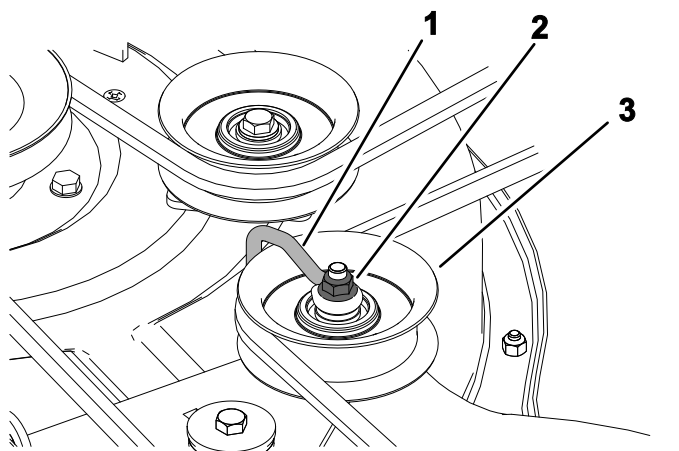

Figure 52
5. For stamped decks, loosen the nut securing the wire form to the idler pulley (Figure 52).
9. For stamped decks, tighten the nut securing the wire form to the idler pulley (Figure 52).
Note: Position the wireform against the idler arm as shown in Figure 52.